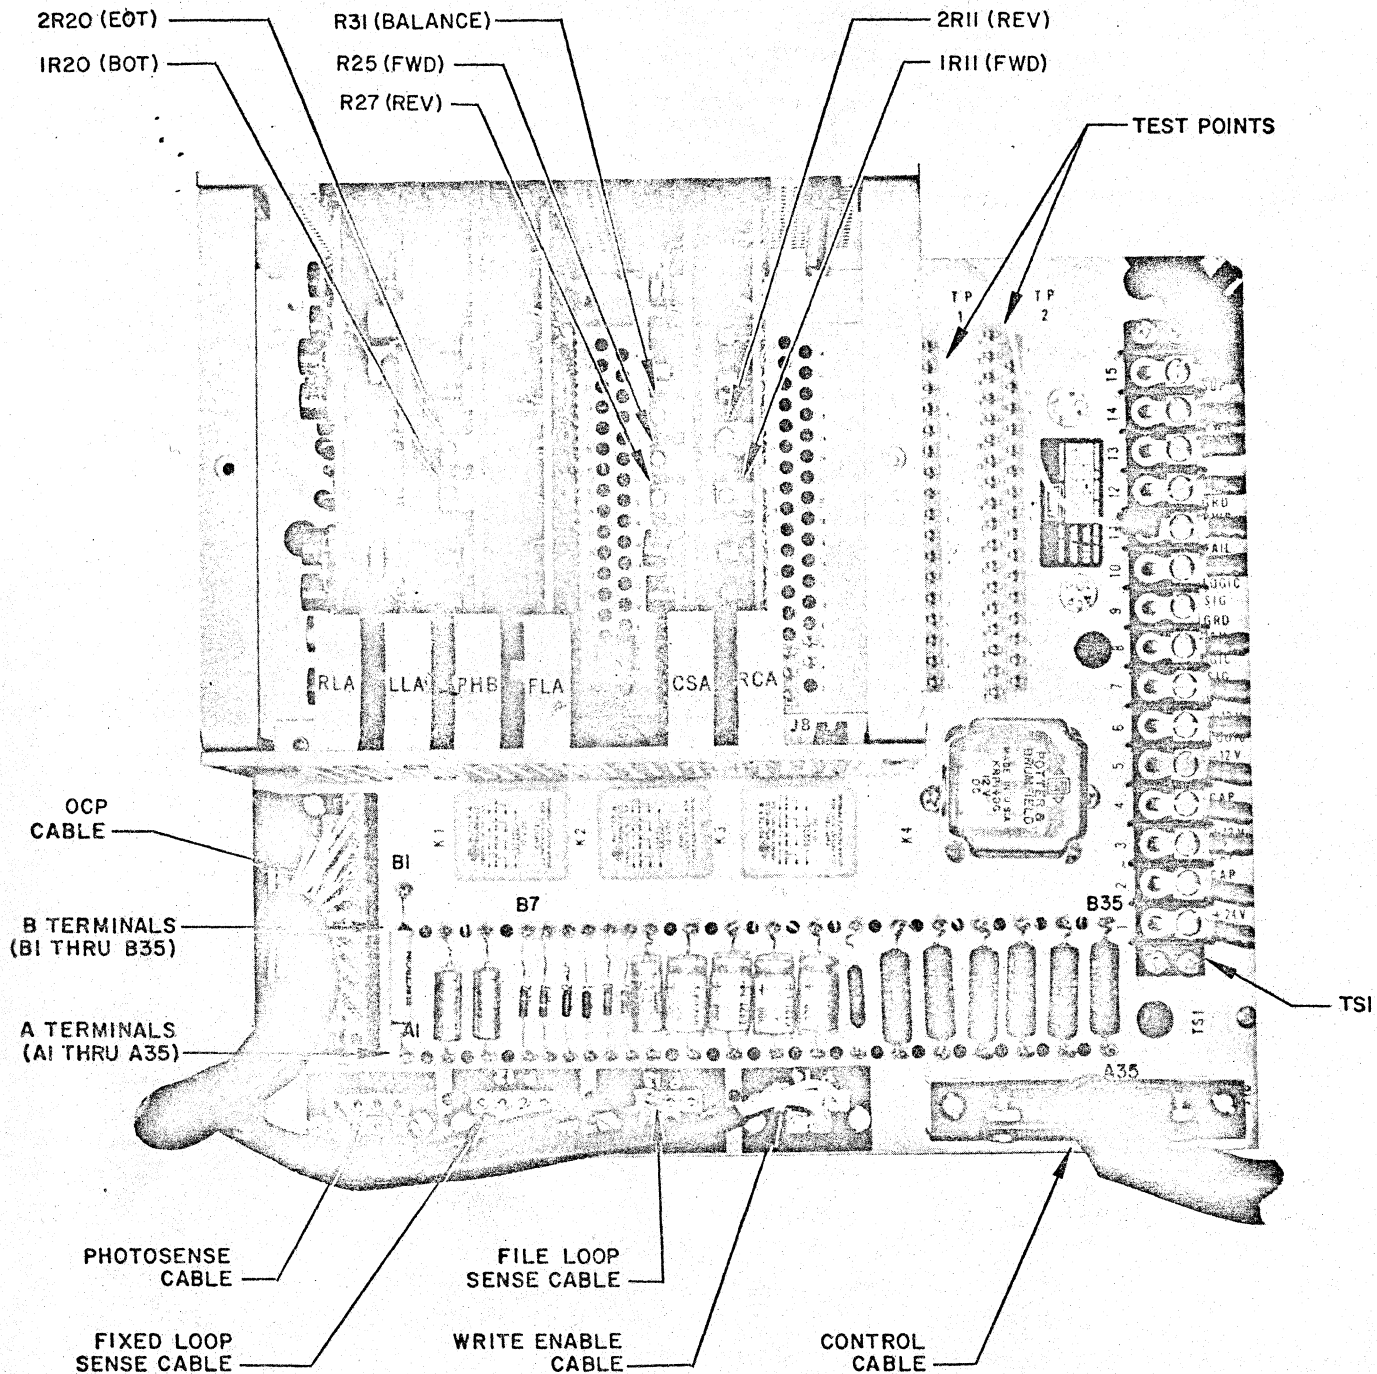

Figure 5-5.
5-19. TAPE DRIVE SYSTEM ADJUSTMENTS. The tape drive system adjustments are accomplished by potentiometers on the capstan servo amplifier PCB (CS-A) and reel servo control PCB (RC-A). See Figure 5-5, Control Electronics.
Step 1: Connect the voltmeter to TP1-20 on the test point panel section of the card cage. Ground the voltmeter to signal ground TP1-35. With the tape under the photosense head, adjust 1R20 on the photoamplifier (PH-B) PCB until the voltmeter indicates a transition from a low state (-6 volts) to a high state (0 volts). (See Figure 5-5.)